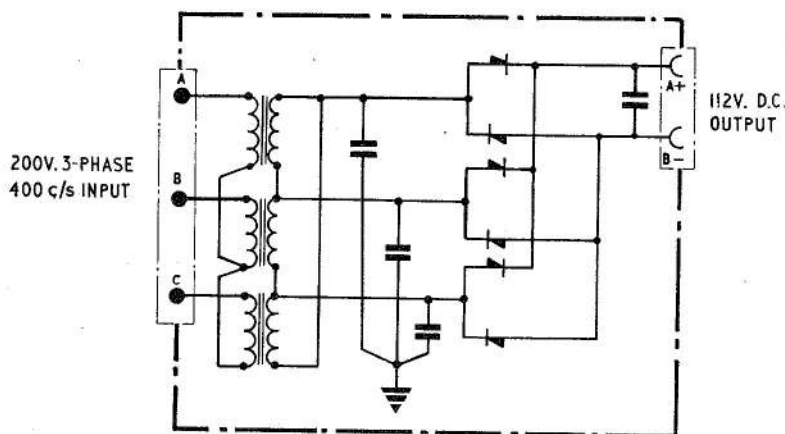

Fig. 2. Diagram of connections
4. Four mounting lugs, each with a 0.201 in. dia. hole on centres 4.38 x 2.94 in. are provided for fixing the unit. A diagram of connections is shown in fig. 2. The 3-phase a.c. input is taken to the 3-pole plug (Ref. No. Z560060) and the d.c. output is taken from the 2-pole socket (Ref. No. Z560230).